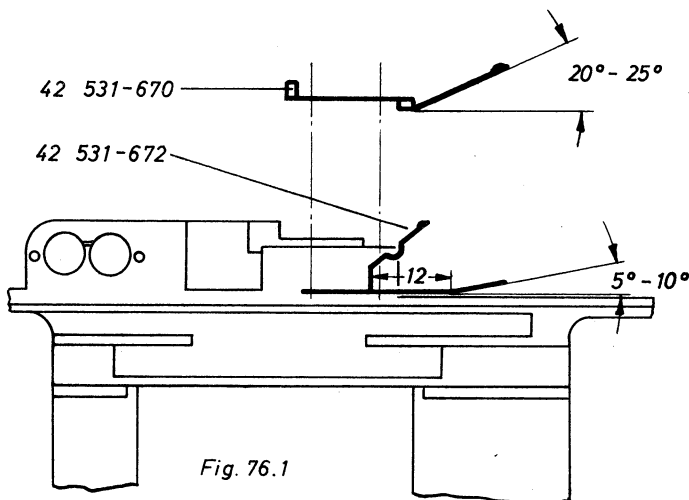

Fig. 76.1
- 4.3 Using tweezers, bend the contact spring 42 531-672 in the foremost half of the lower contact arm upwards at an angle of about $50^\circ - 100^\circ$ (see Fig. 76.1).
- 4.4 Using flat pliers, bend the lower bend of the z-shaped angle of the contact spring upwards and, extending it, bend it again in such a way that the lower edge of the contact spring rests fully on the plate washer 42 531-673 (main body). The contact arm, from the direction of the angled portion, must be bent upwards at an angle of about $200^\circ - 250^\circ$ (see Fig. 76.1).